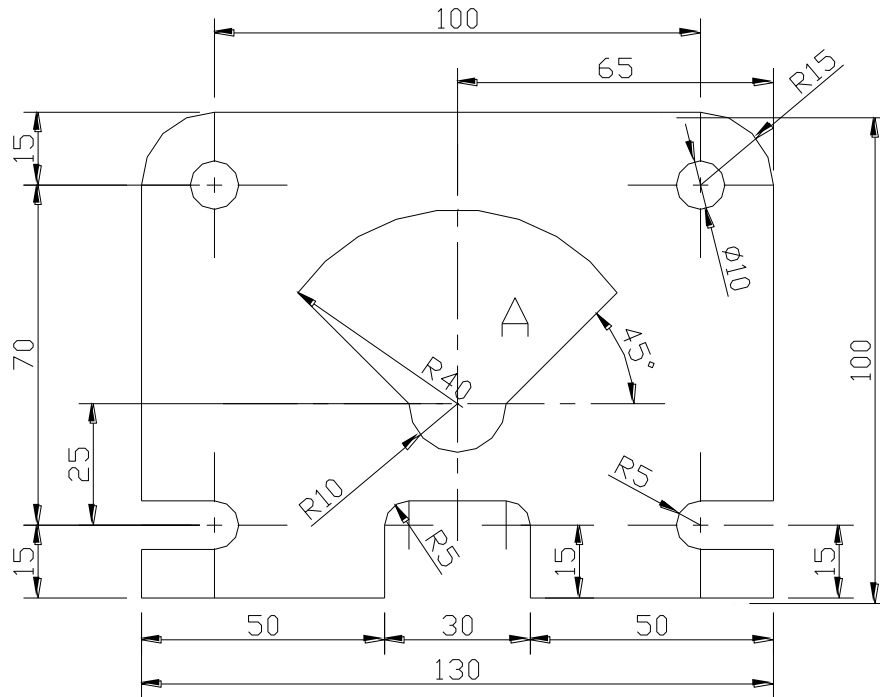

Figure 1
1. Figure 1 shows a template to be produced from a sheet of mild steel, 3 mm thick, 130 mm long and 100 mm wide.